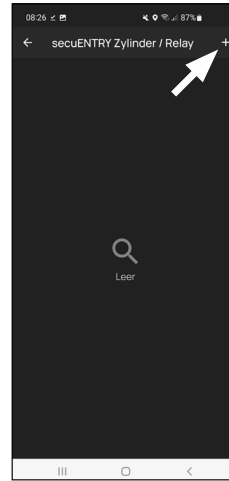

Fig. 2
- 2 The app displays a list of the cylinders that have already been registered. This is empty during the initial setup. Setup a new cylinder by tapping on the "+" in the top right-hand corner (Fig. 2).